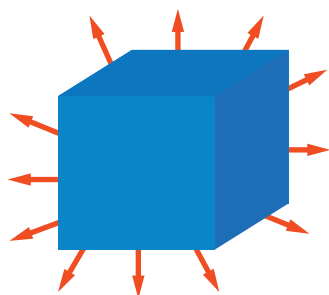

Figure 2.141 Radiation
- ▶ Radiation of heat occurs from the radiator and cooling fins when heat is dissipated to the atmosphere (Fig. 2.141).